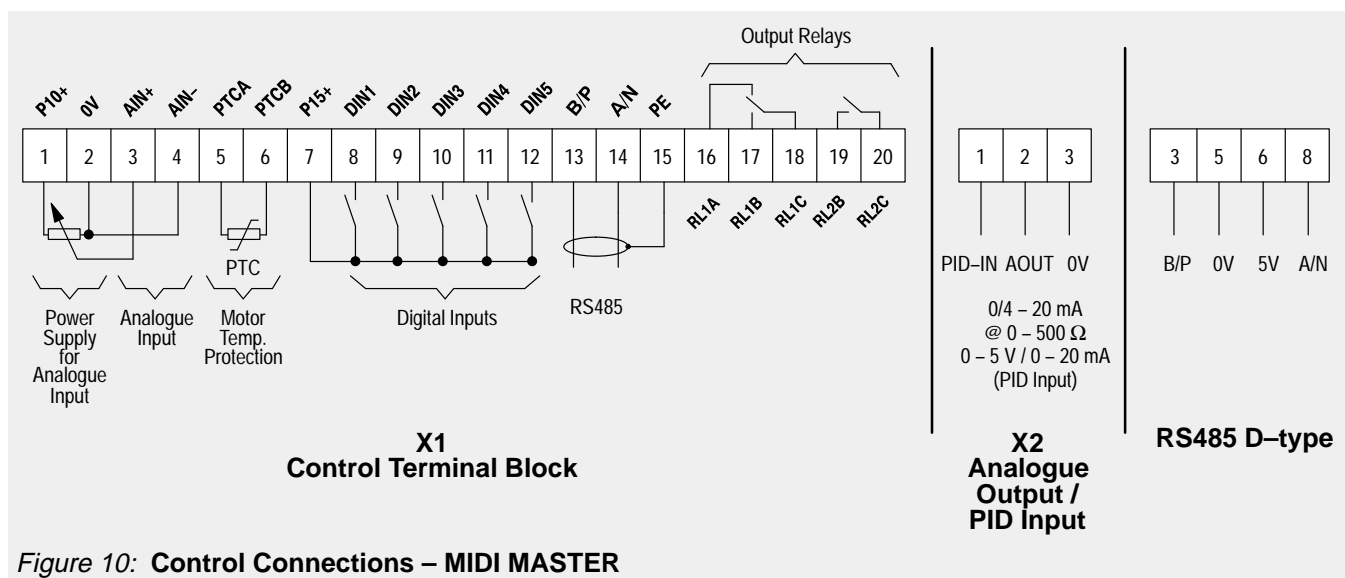

Figure 10: Control Connections – MIDI MASTER
- (1) Connect control terminal 7 to terminal 8 via a simple on/off switch. This sets up the motor for clockwise rotation (default).
- (2) Connect a 4.7 k Ω potentiometer to the control terminals as shown in Figure 7 (MICRO MASTER) or Figure 10 (MIDI MASTER) or connect a 0 – 10 V signal from pin 2 and pin 4 (0V) to pin 3.
- (3) Set the position of SW1 for voltage (V) input.